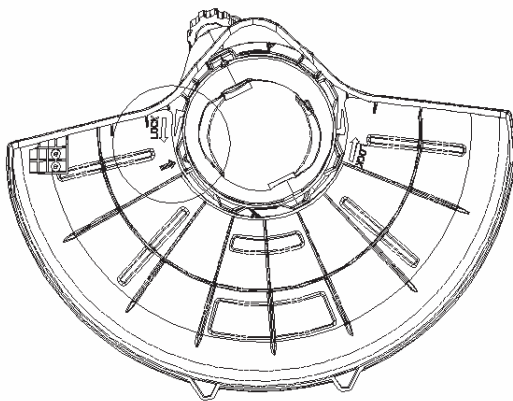
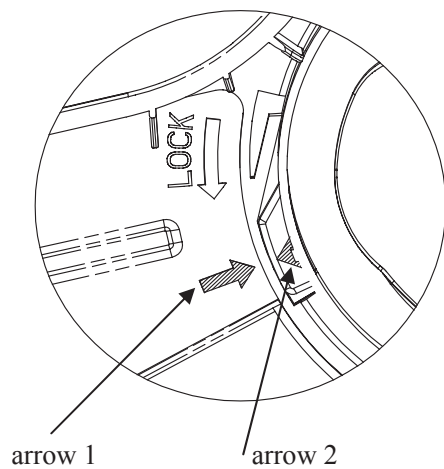

Fig. 5
Fig. 6
1. Align the installation arrow 1 on the debris shield with the installation arrow 2 on the housing as shown. (Fig.5 and Fig. 6.)
2. Twist the debris shield in the **LOCK** direction shown, until it snaps securely into place (Fig.6). Make sure the debris shield is assembled to the unit as shown in the **KNOW YOUR TRIMMER** section of the manual.